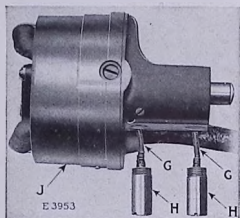

FIG. 30. VIEW OF MOTOR, SHOWING GREASE CUPS REMOVED
1. When the machine is shipped from the factory, the two motor grease cups (HH, Fig. 30) are filled
- (c) Withdraw the entire motor (J, Fig. 30) from the machine by turning it slightly from side to side and at the same time pulling it toward you. The motor should only be withdrawn far enough to expose the two
grease cups (HH, Fig. 30). Do not disconnect any of the electric wiring of the machine or the motor.
- (d) Unscrew the two grease cups (HH, Fig. 30).
- (h) Replace the grease cups, being sure that the wicks (GG, Fig. 30) enter the small holes which lead to the armature shaft.